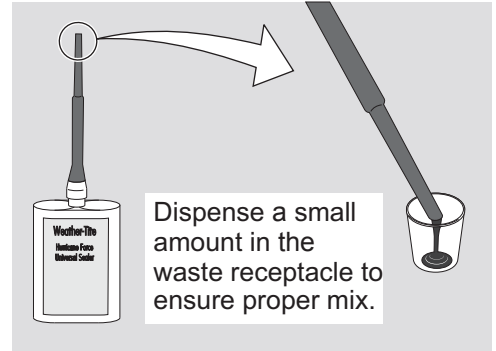

Figure 2-6: Ensuring proper mix of Universal Sealer
- H. Ensure a proper mix of the Weather-Tite Hurricane Force Universal Sealer[®] by first dispensing a small amount in a waste receptacle. (See Figure 2-6)